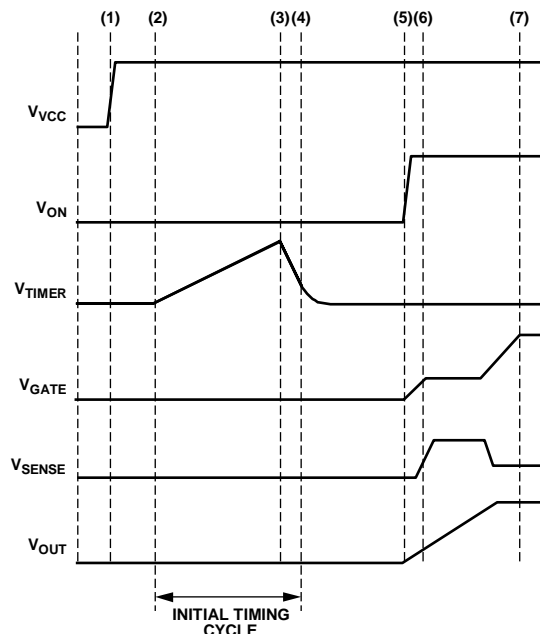

Figure 31. Startup (ON Asserts After Power Is Applied)
At Time Point (6),  $V_{GATE}$  and  $V_{OUT}$  have reached their full potential, and the load current has settled to its nominal level. Figure 31 illustrates the situation where the ON pin is asserted after  $V_{CC}$  is applied.